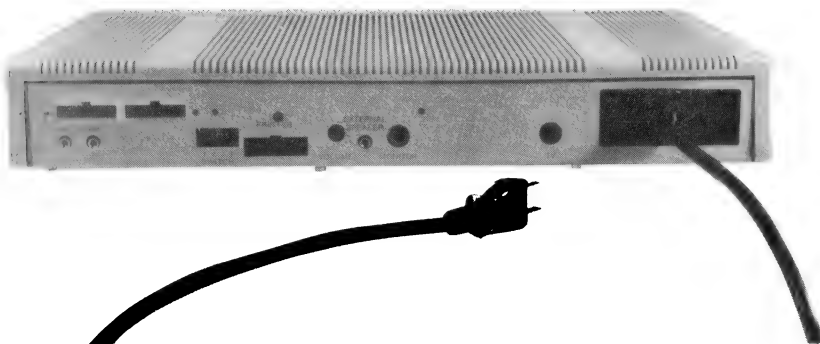

Fig. 2-4 Connecting the Power Supply
- 1) Plug one end of the power cord into the connector on the back panel of the system unit and plug the other end into a wall outlet that can supply AC power of correct voltage as shown in Fig. 2-4.